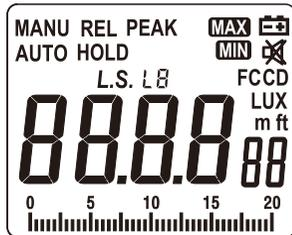

Figure 3-5-1
- Hold the “MAX/MIN/LS” buton for one second and the LS value will flash on the LCD display (as shown in figure 3-5-1). The meter is now in source selection mode. Press “REL/PEAK” or “HOLD/ZERO” to change the light source (L0-L9), long press to accelerate change.